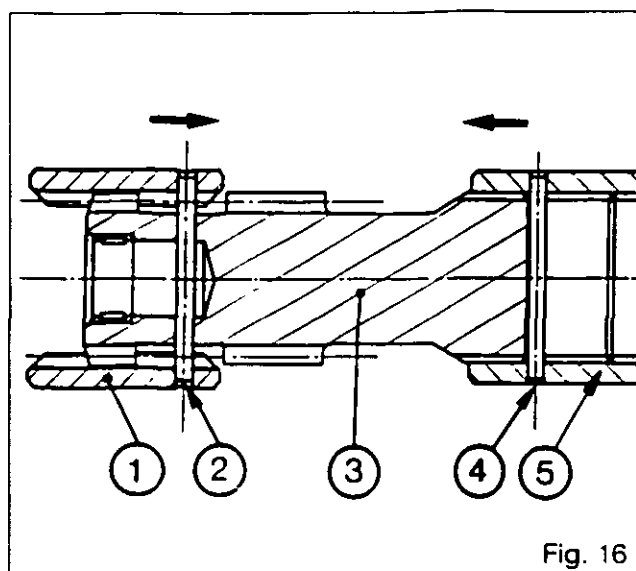

Fig. 16
56. Drive out the double pins (2) and (4) from the sleeves (1) and (5). Slide the sleeves towards one another on the shaft (3) (Fig. 16). Remove the shaft and sleeve assembly.